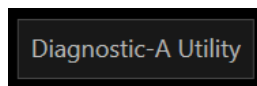

Figure 32: 'Diagnostic-A Utility' Button
- ④ **Diagnostic A-Utility:** To start the Diagnostic A-Scan application, select the 'Diagnostic A-Utility' button (Figure 32).